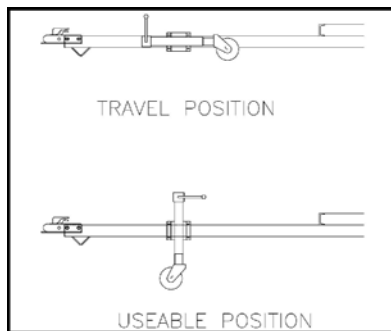
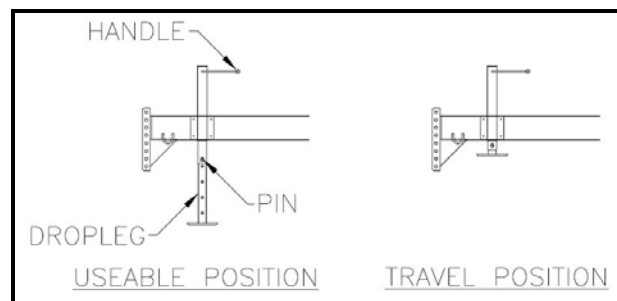

Fig. 1A Tongue Jack Positions
Fig. 1B Dropleg Tongue Jack Positions
After hooking up the trailer to the tow vehicle, fully retract the front tongue jack and lock it into the travel position (*see Fig. 1A or 1B*).
2. The tow vehicle must now be uncoupled from the unit. Remove the safety pin and unlatch the coupler. Either swivel and lock the front tongue jack into the useable position and crank it down so the tow vehicle can be moved away (*see Fig. 1A*) **OR** pull the pin on the dropleg jack and allow the leg to drop to its lowest position. Realign the through holes and reinsert the pin. Crank it down so the tow vehicle can be moved away (*see Fig. 1B*). Disconnect the safety chains, light connector cable, and breakaway cable from the tow vehicle.